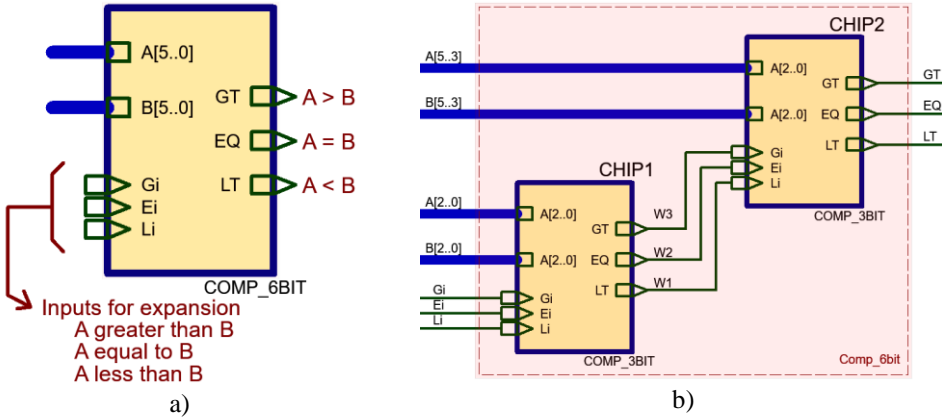

Fig. 23
- Draw a structured hierarchical design as in Fig. 22b using several components. For instance, Fig. 23 shows the truth table for a 3-bit cascadable comparator.